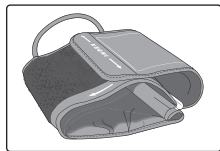

Fig. 2
4. Open the cuff carefully without fully unrolling it, creating a cylinder, Fig 2. The tubing should be facing away from you, following the length of your arm. Do not extend the cuff beyond the metal bar.